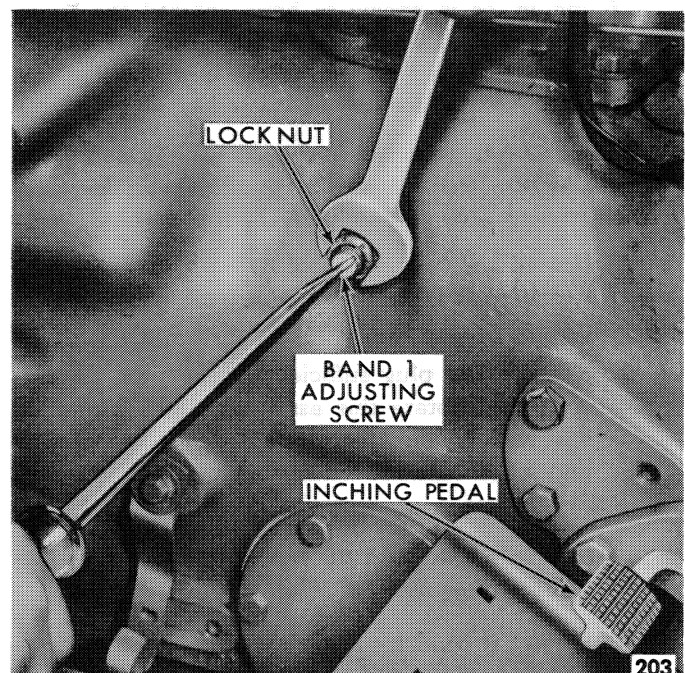

Figure 71—Loosening the Adjusting Screw Locknut
3. Hold the band adjusting screw as shown in Figure 71, and loosen the lock nut two full turns.